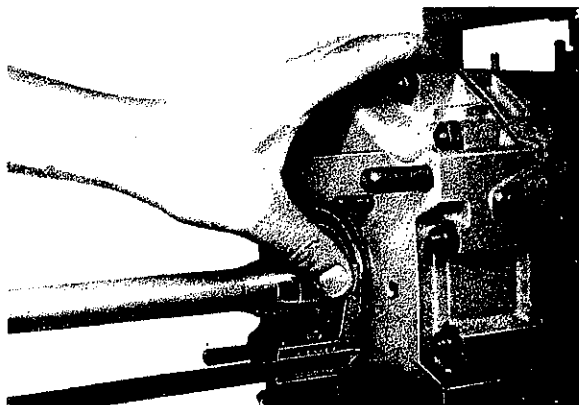

Fig. 56
1. Push shaft sealing ring (203) with sealing lip toward inside of housing into guide flange (201).
2. Apply depth gauge to measure distance from upper edge of ball bearing outer race (207) to housing sealing surface (Fig. 56).